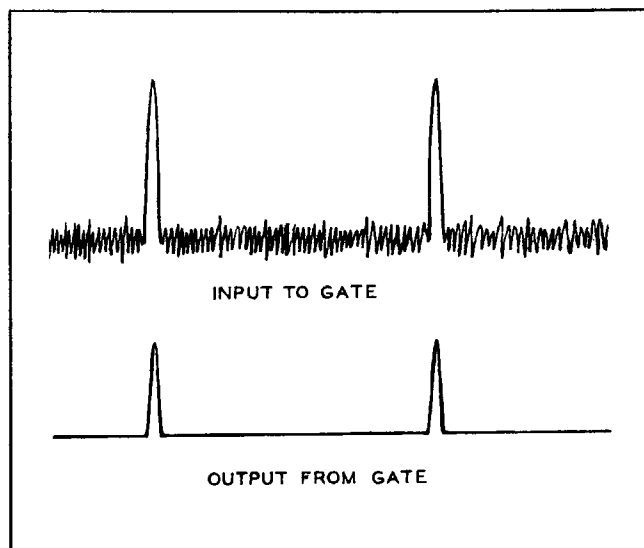

Figure 4-3. Gate Circuit Waveforms
(1) The signal is then capacity-coupled into the clipper tube V-8.
d. The output of the gate diode is developed across resistor R-28, in which the noise or hash has been eliminated and the amplitude of the pulse reduced slightly (see fig. 4-3).
(1) The d-c voltage is obtained from the voltage drop across potentiometer R-30 connected in the cathode circuit of the amplifier tube V-9 which follows the gate diode tube V-8.
(2) The input voltage to the gate diode plate must exceed this d-c voltage before any output is had from the circuit (see fig. 4-3).
(3) The d-c voltage is so adjusted that there is no output from the gate circuit except when a pulse occurs at the input, thus it is not affected by general noise level.